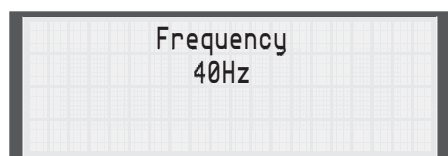

Fig. 2.27
4. Press the Freq. key and use the Arrow keys to set the cycle frequency (**Fig. 2.27**), then press the Enter key.